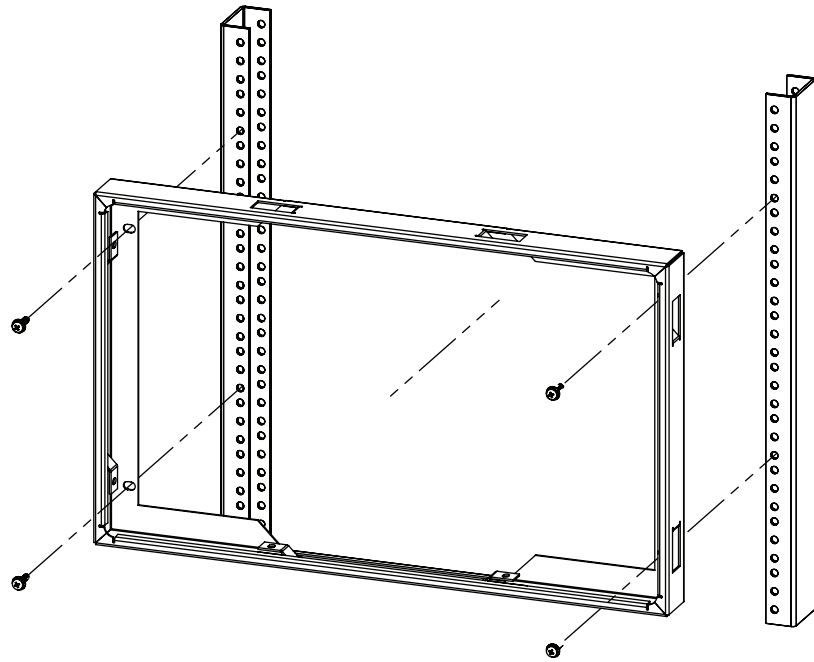

Figure 1 Install the Rack-Mount Bezel onto a 19" Rack
- Step 2. Install the rack-mount bezel onto the 19" rack by using the proper screws and fasteners for your rack (not provided) (see *Figure 1*).